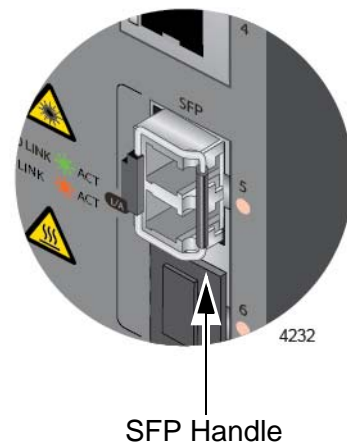

Figure 28. Verifying the Position of the SFP Handle
5. Verify the handle on the transceiver is turned to the right. Refer to Figure 28.